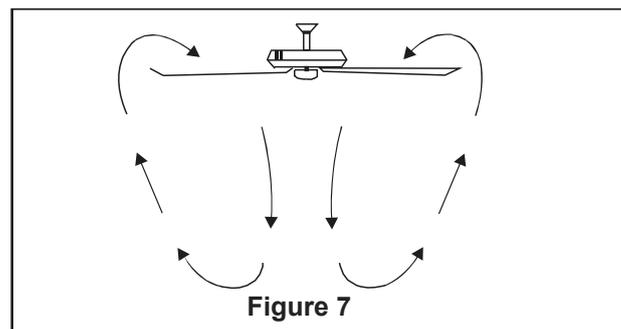

Figure 7
7. Cut off excess lead wire approximately 6 to 9 inches above top of the downrod. Strip insulation off 1/2 inch from the end of each lead wire. (Figure 7)
- ### 7. Warm weather - (Forward) A downward air flow creates a cooling effect as shown in . (Figure 7) This allows you to set your air conditioner on a higher setting without affecting your comfort.